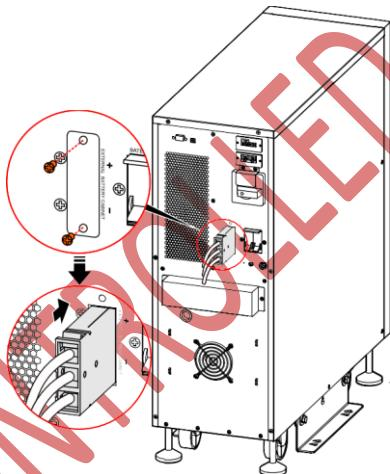

Figure3-14 Extension battery wiring
- Step 2 Plug the extension battery assembly that has been connected with battery into the external battery port, as shown in Figure3-14.